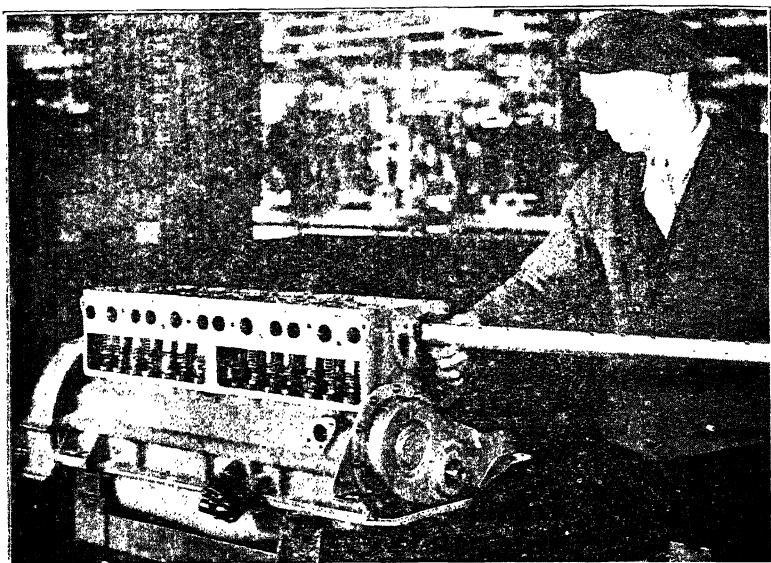

Fig. 1. Pontiac 8-Cylinder Engine on Assembly Line
**Constructional Features and Metals.** Fig. 1 shows the Pontiac eight-in-line engine on the assembly line. It will be noted that the crank case and cylinder block are cast as one